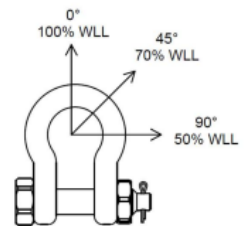

Figure 1
- Avoid side loading; shackles are designed for straight-line tension. See fig. 1